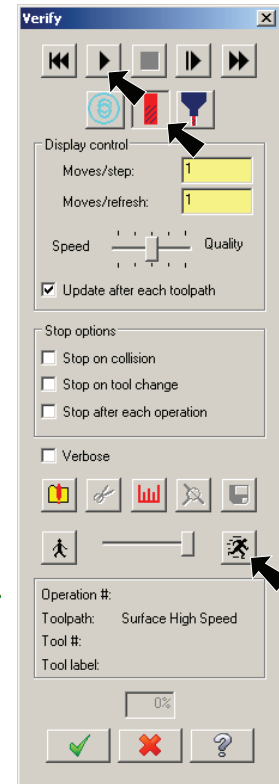

Fig. 21
- Step 2. Click **Machine quickly**  in Verify dialog box, Fig. 21.